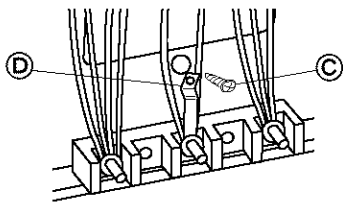

Figure 1
8. Remove the ground-link screw Ⓒ from the range frame. Save the ground-link screw. Bend up the ground link Ⓓ so that it does not contact the range. See Figure 1.